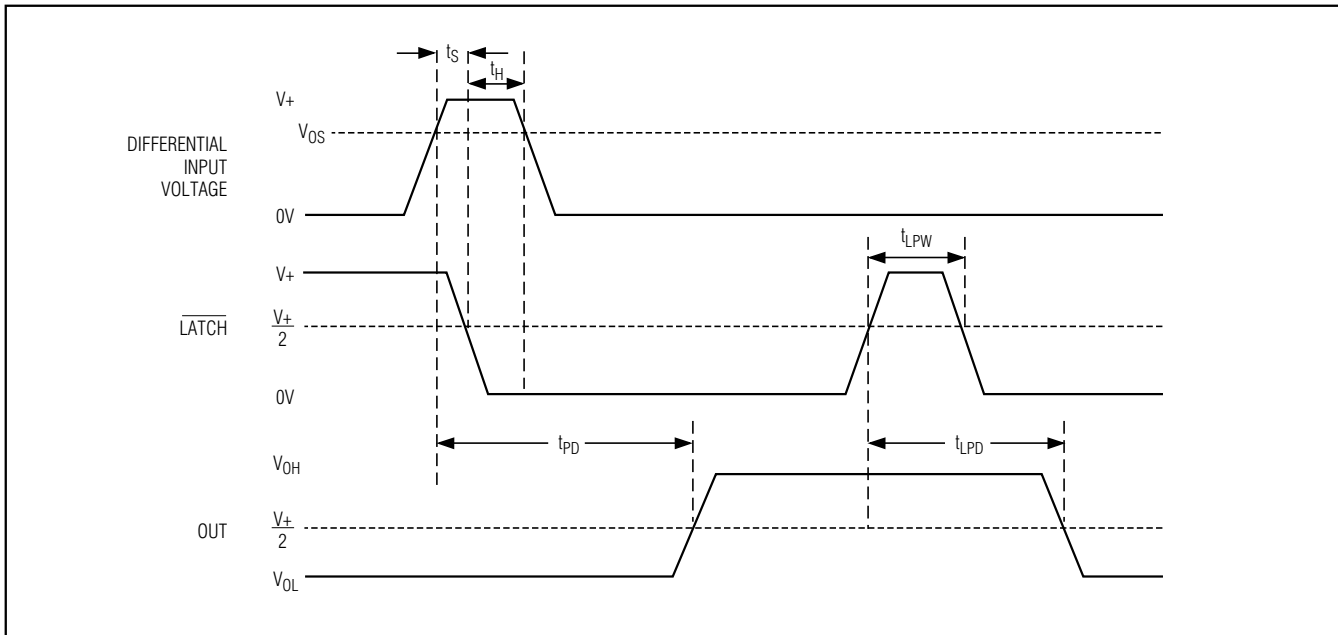

Figure 2. MAX941 Timing Diagram with Latch Operator
- Note 8:** Parameter is guaranteed by design and specified with V_{OD} = 5mV and C_{LOAD} = 15pF in parallel with 400μA of sink or source current. V_{OS} is added to the overdrive voltage for low values of overdrive (see Figure 2).
- Note 12:** Applies to the MAX941 only. Comparator is active with $\overline{\text{LATCH}}$ pin driven high and is latched with $\overline{\text{LATCH}}$ pin driven low (see Figure 2).